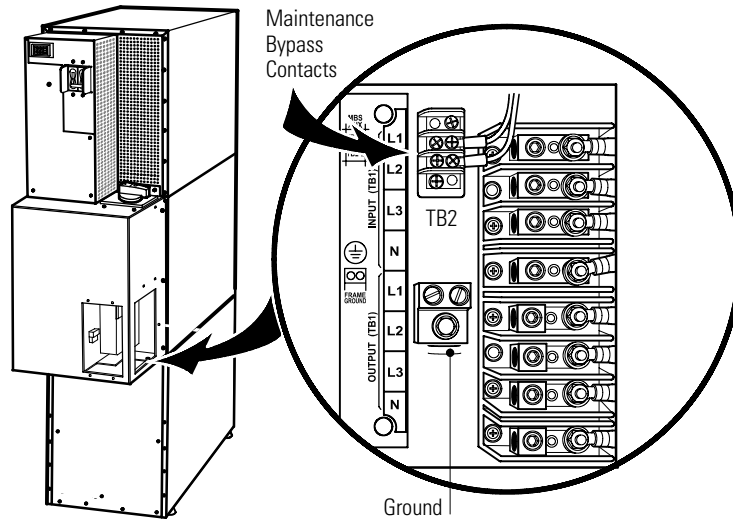

Figure 22. UPS Terminal Block (3-High Shown)
See Table 2 for specifications and Figure 22 for a detailed view of the UPS terminal block.
16. Route the maintenance bypass wires through the conduit to the UPS terminal block (see Figure 22 on page 35).